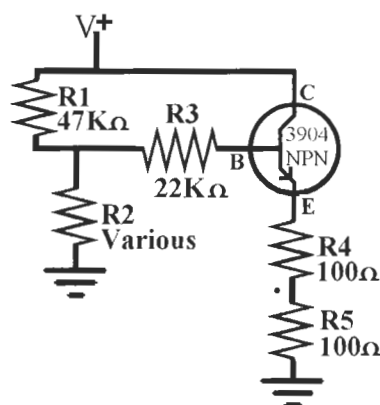
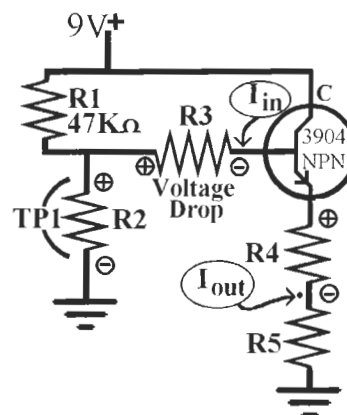

Figure L47-1
Figure L47-2
Set up a modified version of the night light circuit. The schematic in Figure L47-1 shows a few changes needed to calculate the gain of the NPN 3904 transistor.
4. In Figure L47-2, R4 and R5 make a voltage divider. Measuring the voltage drop across R4 makes it an easy task to calculate the current available at the emitter (output).
6. Now, using the schematic in Figure L47-2, use the values shown for R2. R2 is the only resistor that changes values. R3 keeps the 22 k Ω value shown in Figure L47-1 (see Table L47-3).